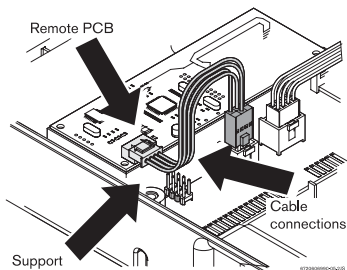

Fig. 7
- ▶ Remove the other protective cover and attach the remote control PCB as shown in Fig. 7.
- ▶ Using the supplied cable connect between the main PCB and the remote control PCB as shown in Fig. 7.